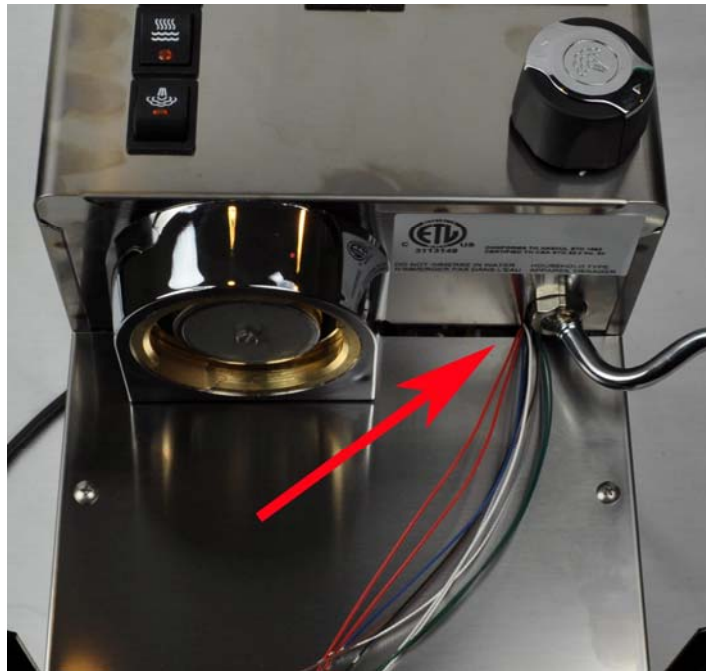

Figure 25. Cables going through the back panel of the controller box.
- 2) Fit the steam control cables, controller power cables and RTD sensor cables to the outside through the gap around the steam wand (red arrow in Figure. 25).